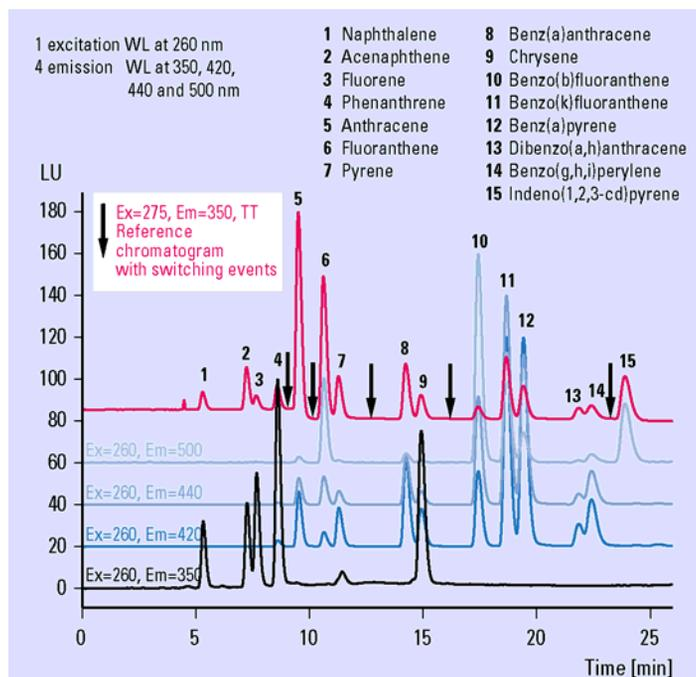

Figure 35 Simultaneous multi wavelength detection for PNA-analysis
PNA analysis, for example, can be performed with simultaneous multi wavelength detection instead of wavelength-switching. With four different wavelengths for emission, all 15 PNAs can be monitored (Figure 35 on page 76).
**Table 12** Conditions for Figure 35 on page 76